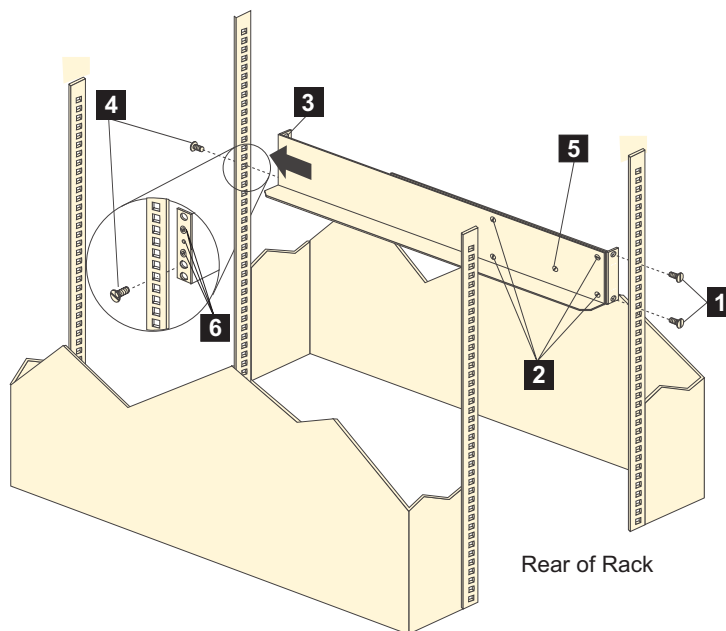

Figure 17. Installing the support rails
**Note:** Refer to Figure 17 on page 36 while performing these steps.
**Note:** The support rails are not marked as Left or Right. However, each rail can be correctly mounted on only one side of the rack cabinet. The rails should be mounted with the alignment pins at the front of the rack. Figure 17 shows the installation of the left support rail.
- d. From the back of the rack, insert the two 6/32 in. screws ( **5** in Figure 17 on page 36), one on each side, in the holes on the side of the unit. Tighten the screws.